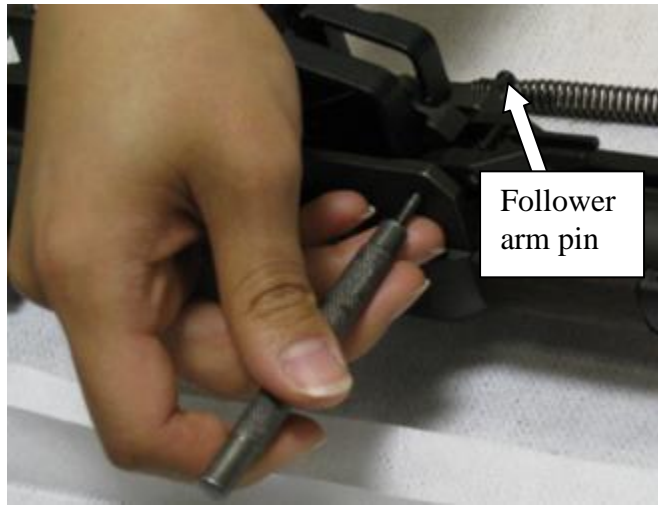

Figure 15. Removal of follower arm pin
- 2) Using a 1/8 inch punch, remove the follower arm pin by pushing on it from the small side of the pin (the left side of the rifle when it is upright and pointed downrange). The large end of the pin can then be grasped and fully removed (fig 15).